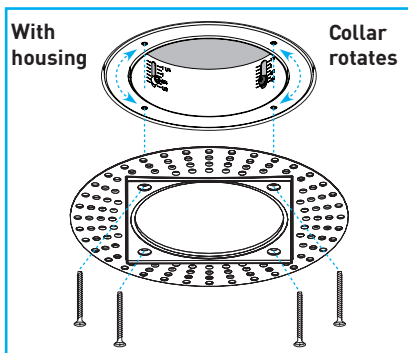

Fig.30
**With Housing:** For installations utilizing a downlight housing, align 4 countersunk screw holes in appliqué with corresponding holes of rotatable housing collar in ceiling cut-out. Use 4 provided screws through proper holes in appliqué and tighten until appliqué is fully seated against ceiling surface (Fig.30), ensuring desired alignment if square appliqué is used.